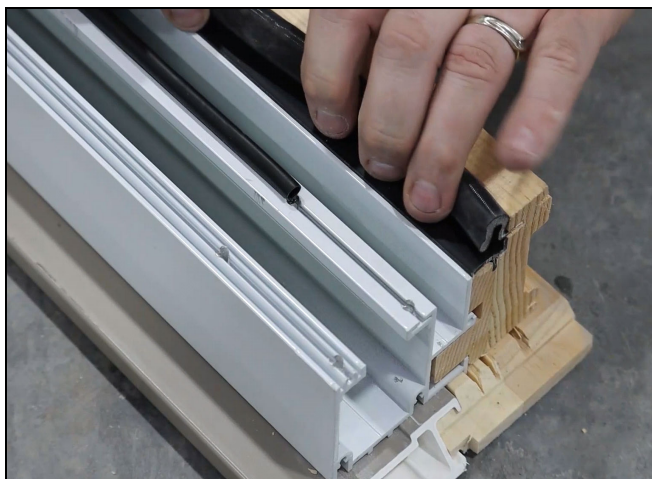

Figure 84
10. Install the head jamb weather strip full length of the wood head jamb and cut to fit ensuring the weather strip is flush to both ends. See Figure 84